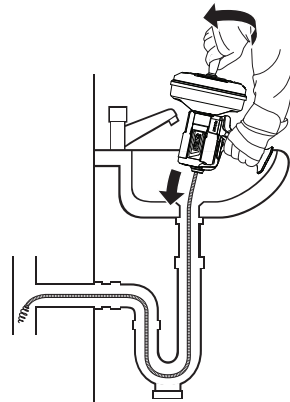
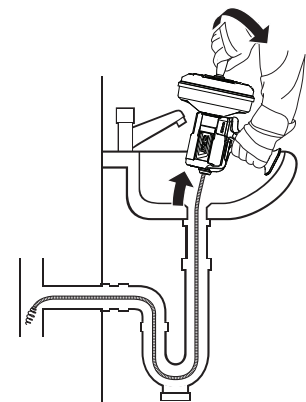

Figure 6 – Advance Cable
Figure 7 – Retract Cable
4. Turning drum clockwise advances cable, *Figure 6*. Counter-clockwise retracts cable, *Figure 7*. Cable can also be advanced/retracted by hand. Advance cable until you encounter the blockage.
8. Retract cable (*Figure 7*). Pay attention to the cable during retrieval as the cable end can still become stuck.